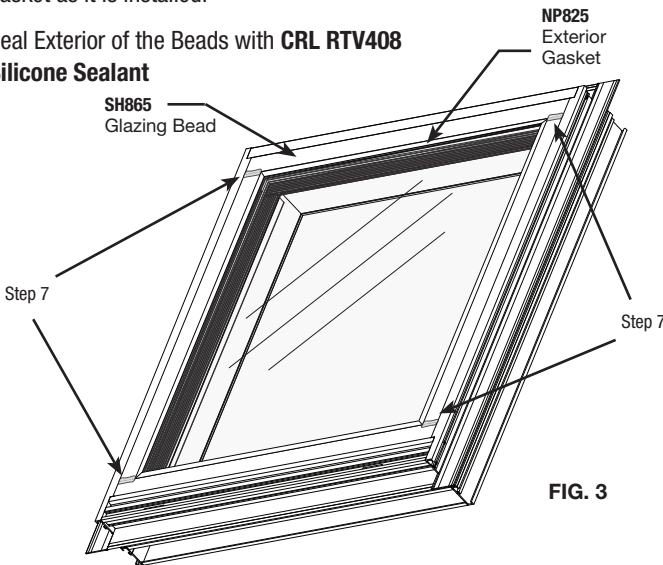

FIG. 3
**Step 5:** Cut and insert each **SH865** Glazing Bead. **Figure 3**